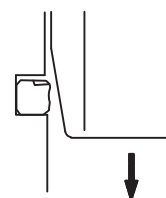

Fig. 4
- (4) If the swivel seal is distorted after fitted, correct the distortion with a jig before assembly. (Fig. 4)